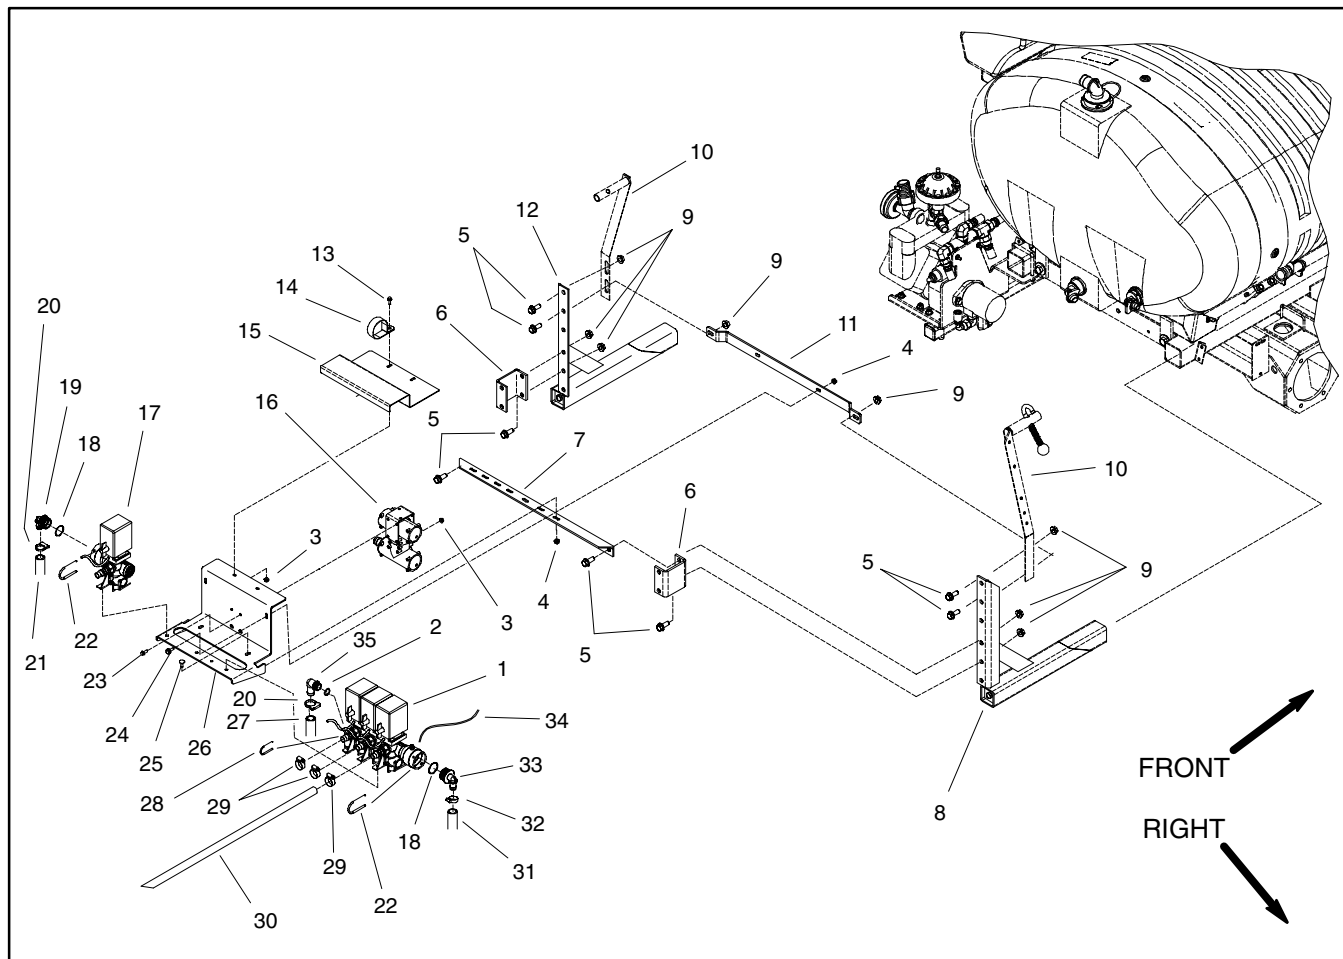

Figure 18
Removal (Fig. 18)
6. Remove additional spray control components as required using Figure 18 as a guide. Discard all removed o-rings and gaskets.
Assembly (Fig. 18)
1. Install spray control components using Figure 18 as a guide. Replace all removed o-rings and gaskets.